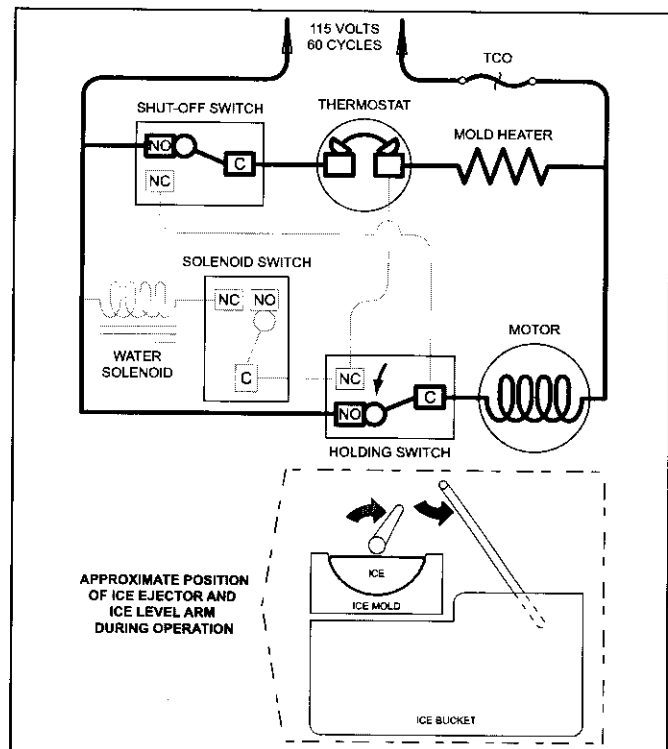

Figure 6-4. First Revolution Continued
**First Revolution Continued (See Figure 6-4)**